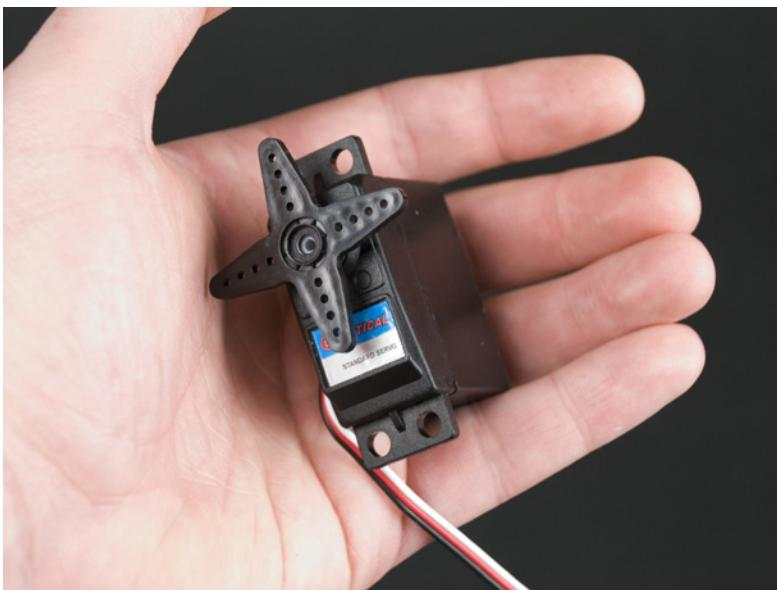

Figure 8-17. Finished continuous rotation servo
10. Put the gears back in place and screw the lid back on. Now you have a continuous rotation servo, as shown in Figure 8-17.